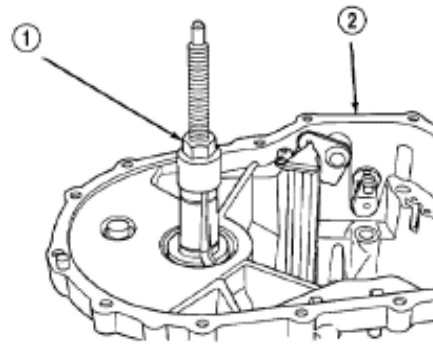

Figure 3-103 Tool mounted on the bearing
(1) Following the process to remove differential assembly out of gear box.
(2) Install Millertool L-4518 in the bearing cap (Figure 3-103).